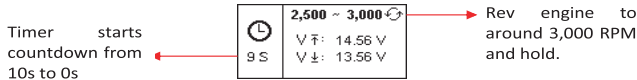
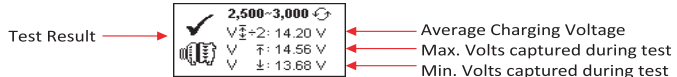

Fig.40
Fig.41
4. Start the engine if it is not running and maintain at idling condition. Make sure the air condition is OFF. Press  key to continue and display will show. (See Fig.40).
5. Then rev the engine to around 3,000 RPM and hold, the timer shown on the display (Fig. 40) will start to countdown from 10s to 0s. As soon as it reaches zero second, the results will automatically display as example shown below (Fig.41).
7. Continue from the previous test (either Fig.41, 42 or 43); the display automatically switched to **[Electrical Load Test at 2,000 RPM]** as shown in Fig.44 below after 5 seconds.